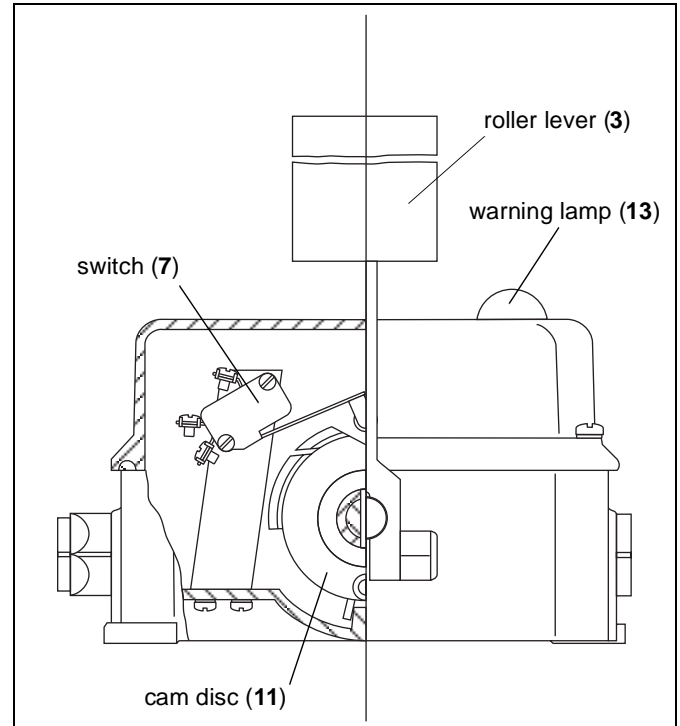

Fig. 3-1: Conveyor belt misalignment switch of the type HES
The roller lever (3) of stainless steel is ball-bearing in order to better cope with lateral forces and shocks (see Fig. 3-1). As a result of the large roller diameter of 48 mm it is possible to operate the belt at high speeds. All external parts are either made of stainless steel or treated galvanically.